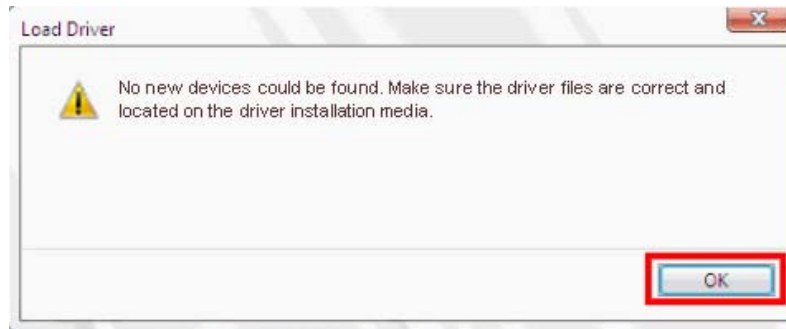

Figure 4-9: Confirm the Driver File
Step 5: Click **OK** to continue (Figure 4-9).